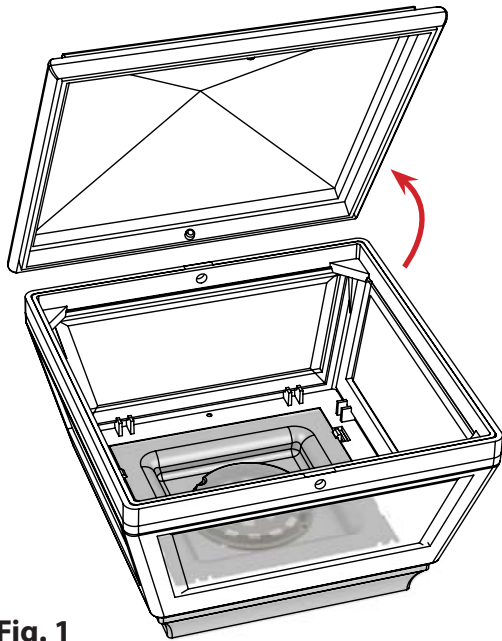

Fig. 1
1. Remove Post Cap Top by popping locking pins out of Post Cap assembly (Fig. 1).